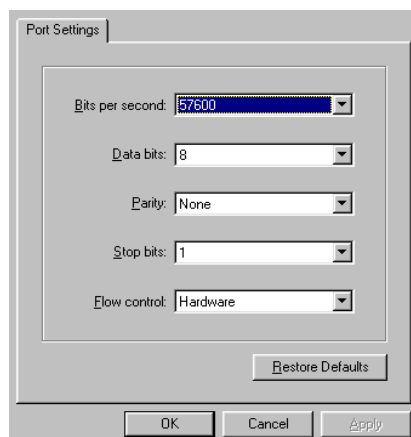

Figure 2-6 COMn Properties Dialog Box
7. Ensure the *Connect using* field displays **COM1** or **COM2** (depending on the serial communication port connection to the director), and click *OK*. The *COMn* dialog box (Figure 2-6) displays (where *n* is **1** or **2**).